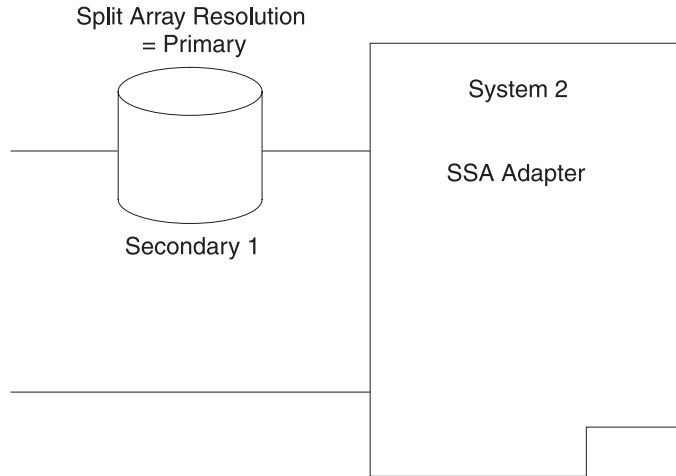

Figure 22. RAID-1 Failure of a Host System and a Primary Disk Drive
**RAID-1 Failure of a Host System and a Primary Disk Drive:** Figure 22 shows system 2 disconnected from system 1. The array is in the Offline state. If you set the Split Array Resolution flag to **Secondary**, the array goes into the Good state.